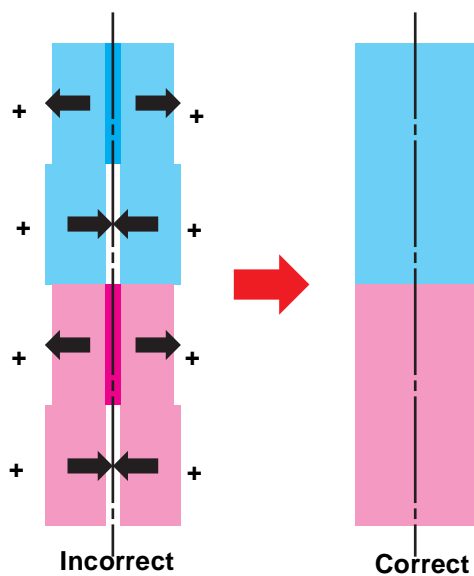

Figure 5-8. Bi-D Adjustment for Patterns #6 and #8
4. Check the vertical alignment of the lines on the printed test pattern. In patterns 1-5 and 7, the lines should line up vertically. In patterns 6 and 8, the printed blocks should have even edges as shown in Figure 5-8.